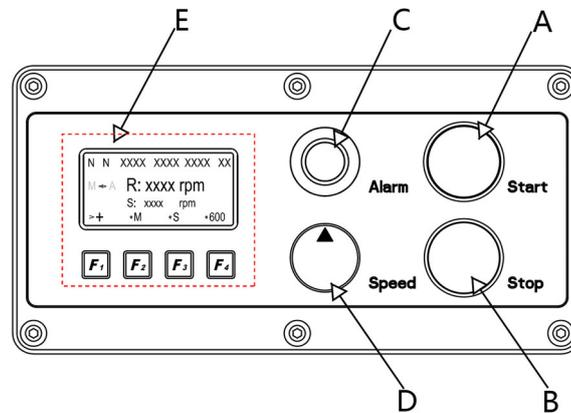

Fig. 9
5.1 Control Panel and Operation Instruction (Fig. 9)